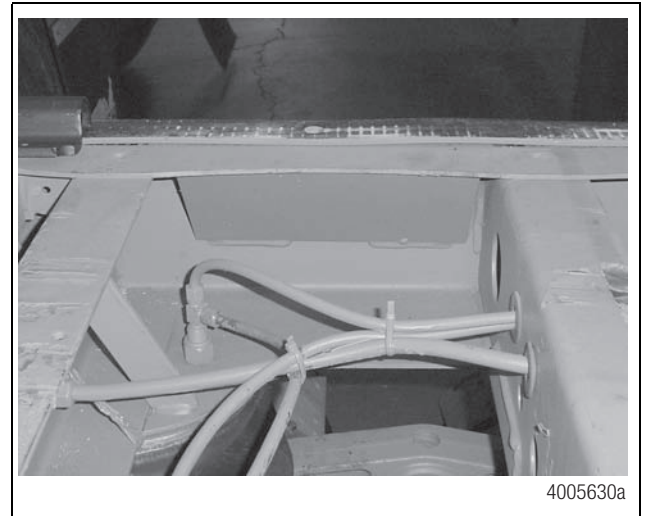

Figure 37
9. Position and weld the enhancement plates between cross members one and two. Refer to Figure 37 and Figure 38.